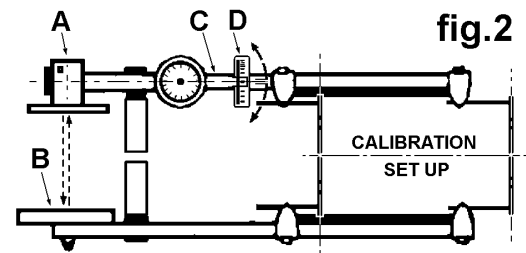
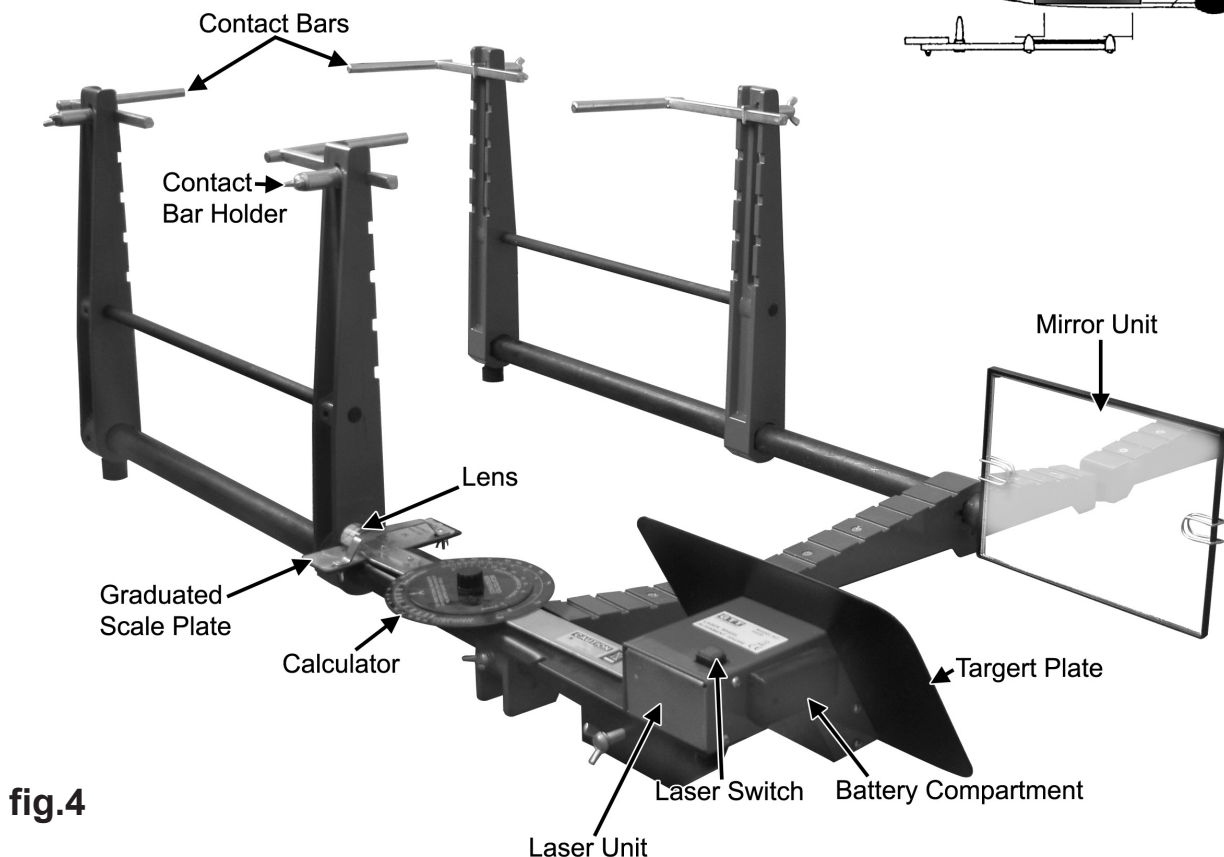

fig.2
fig.4
- 4.4 When the contact bar arrangements on both units match, proceed to calibrate the gauge. (**See calibration set - up in figure 2**).
- 4.5 Stand both units close together so that the tips of the contact bars are touching. The mirror unit (B) should be vertical. (Check the built in spirit level and adjust accordingly). If the laser beam is not visible on the target plate loosen the thumb screw and tilt the laser unit until the beam is visible on the target plate. (See fig.4).
- 4.6 Move the pointer arm (see fig.2-C) until the laser beam is visible on the vertical centre line in between the two bold arrows.
- 4.7 The lens attached to the end of the pointer arm should now be positioned over the zero mark on the graduated scale plate. (see fig.2-D) If it is not, slacken the two wing nuts (fig.4) and adjust the scale plate zero mark to coincide with the indicator line on the lens. Retighten the wing nuts. The gauge is now ready for use in this particular situation. (Should you proceed to use the gauge on a different vehicle requiring you to alter the contact bar settings you will need to recalibrate the gauge as just described).
- 4.10 The calculator (see fig.4) allows conversion of the angle obtained to a linear measurement in millimetres or fractions of an inch (Linear toe-in or toe-out). Set the large arrow on the top dial to the specified width on the bottom dial. The specified width may either be the nominal wheel diameter or a dimension equivalent to a diameter on the tyre sidewall e.g. mid - sidewall (or in accordance with the measuring position figures in the appropriate workshop manual or handbook). Read the linear toe reading from the bottom dial, opposite the angular toe reading from the top dial.